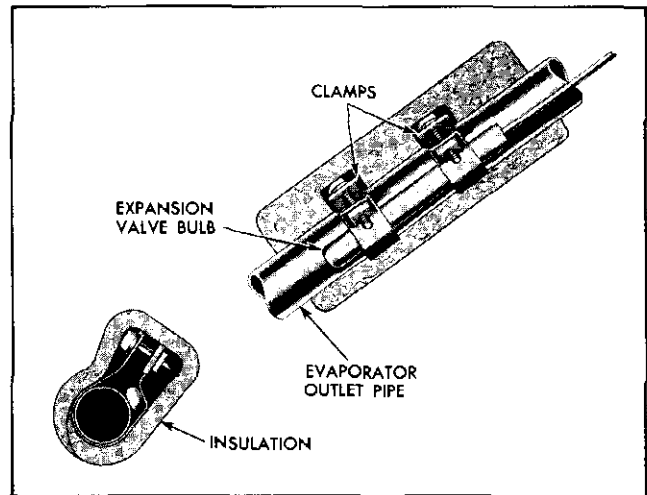

Fig. 6-68 Thermostatic Expansion Valve Bulb at Evaporator Outlet Pipe
7. Disconnect thermostatic expansion valve capillary tube bulb at evaporator outlet pipe (Fig. 6-68).